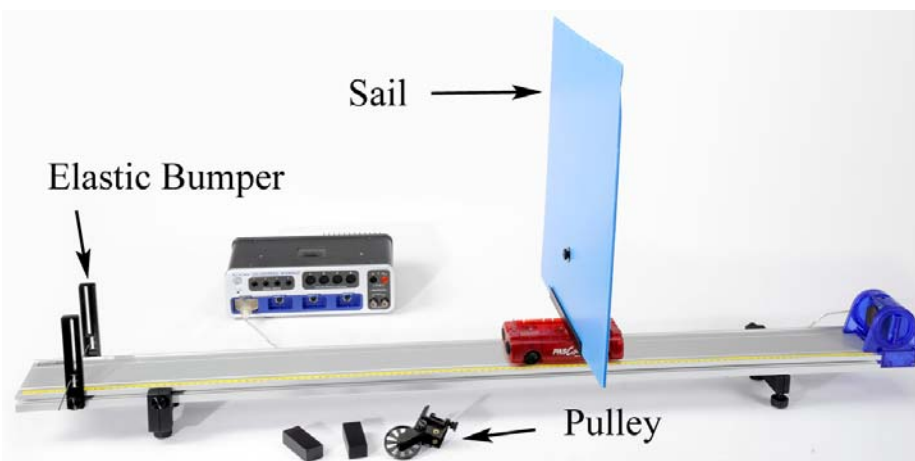

Figure 1: Measuring Air Drag
1. Set up the track as shown in Figure 1, including the feet and the Elastic Bumper.
9. Attach the large sail to the cart as shown in Figure 1.